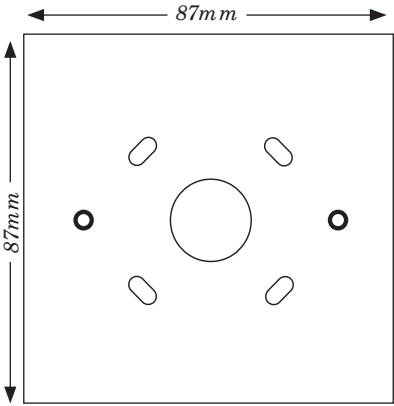

Fig 1 Back box
1. Fit the backbox (**Fig 1**) to the wall.